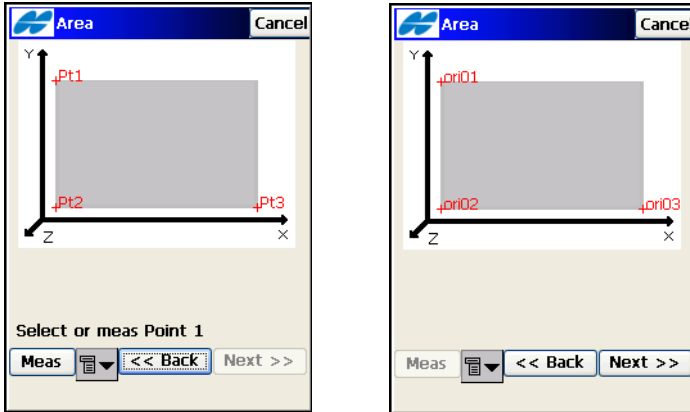

Figure 11-43. Select Area
- **Next** – opens the *Area* screen (Figure 11-43 on page 11-42).
The *Area* screen (Figure 11-43) selects the starting and ending points for the scanning area.